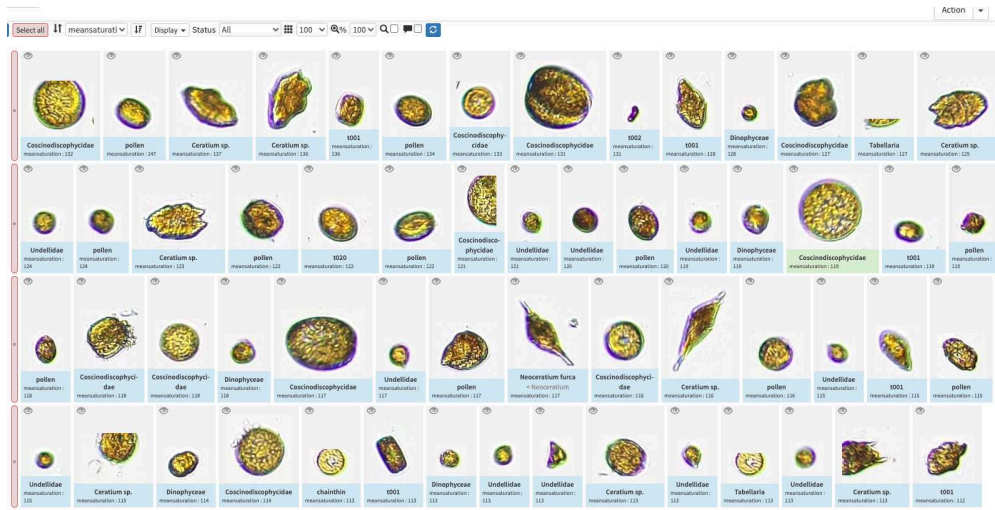

Figure 3: Objects sorted by the mean saturation.
3. The quick access filters (top bar). Quick filters are pretty useful since you can sort objects by specific values (eg. mean saturation in fig.3, to quickly observe objects that have lots of chlorophyll). You can revert the sorting order of those filters by ascending or descending order.